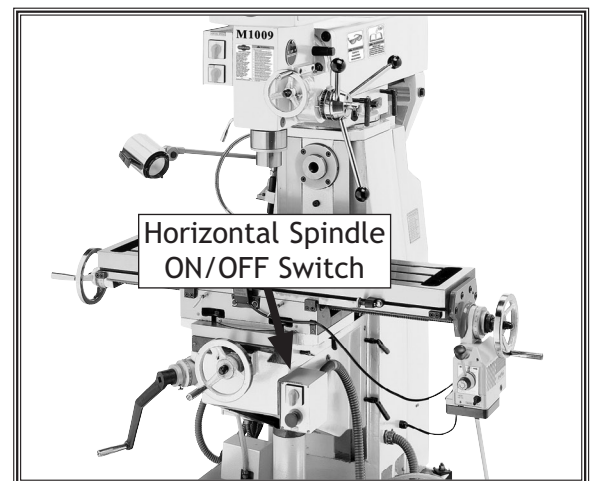

Figure 33. Horizontal spindle control for Model M1009.
- **Figure 33** shows the location of the horizontal spindle switch for the Model M1009.